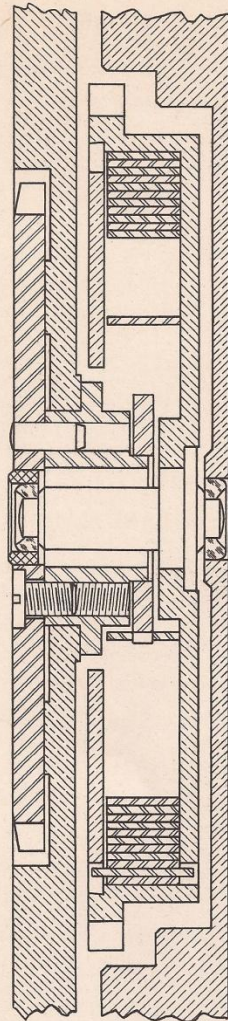

Figure 4
A new type of jeweled motor barrel unit has been incorporated in the design of the grade 921 movement. The assembly and component parts are illustrated in figures 4 and 5 respectively. The floating mainspring hook (H) permits greater freedom and self adjustment of the mainspring in the barrel, resulting in a very smooth transfer of power to the train.